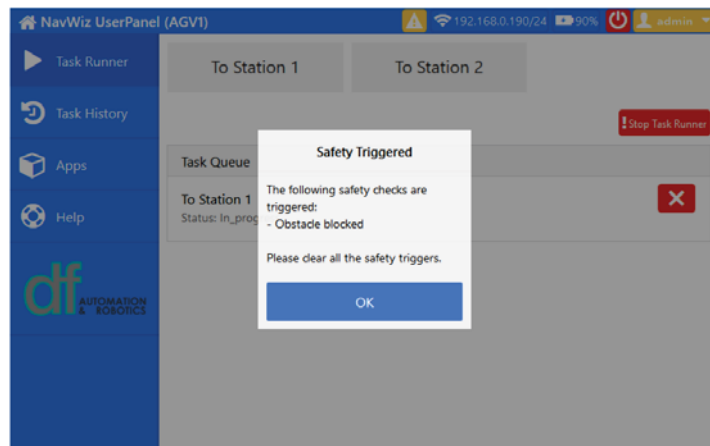

Fig. 3.24: Obstacle Blocked Safety Triggered Message
- i. Upon sensing of obstacle inside the laser scanning profile, Zalpha AGV will stop its current operation immediately and a **Safety Triggered** with **Obstacle blocked** message as shown in Fig. 3.24 will be shown on the **LCD Touchscreen**